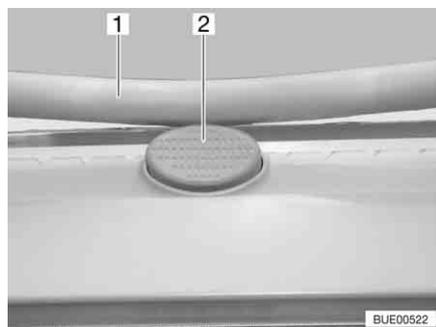

Fig. 70 Safety knob on the Heki skylight
- Press the safety knob (Fig. 70,2) and pull the bar (Fig. 70,1) down with both hands.
- Push the bar upwards with both hands until it is above the safety knob (Fig. 70,2).